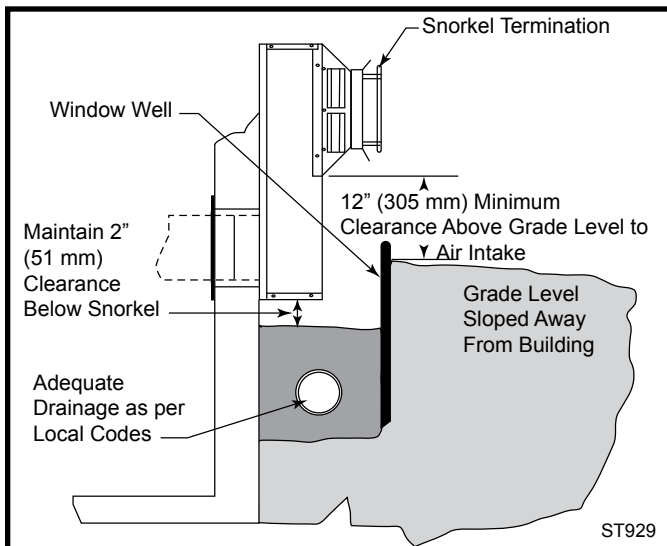

Figure 39 Below grade installation.
interference with wall studs, electrical wiring, conduit, plumbing pipe or other obstructions. The termination should be located at least 12" (305 mm) (Figure 39) above grade, remain above the snow line in geographical areas that accumulate snow and be away from traffic areas such as walkways if it is less than 7' (2.1 m) high. Refer to Pages 11, 12, Figures 11, 12 for more detail.
NOTE: If a vertical rise is necessary on the exterior side of the building, a 14" (356 mm) and 36" (914 mm) Snorkel Termination (ST) is available. Follow the installation procedures for horizontal terminations. If the snorkel termination is to be located below grade, a window well is recommended with adequate and proper drainage as per local codes. Leave 2" (51 mm) clearance below snorkel to prevent water from entering the snorkel termination. Do not enclose the snorkel within a wall or other type of enclosure and **do not back fill**. Ensure that grade level slopes away from the building. (Figure 39)